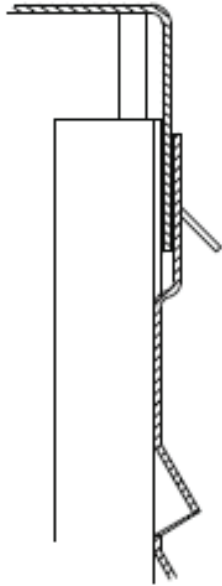

Fig. 4 — Hail Guard into Top Cover (Use No Screws)
4. Align the hail guard panel with the respective section of the outdoor coil and engage top notch in each panel to top cover flange as shown in Fig. 4.